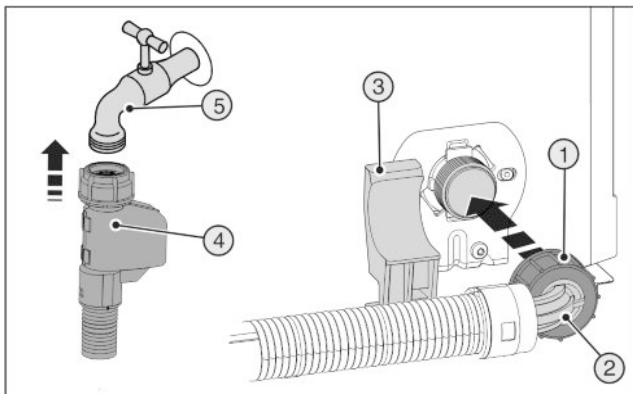

Fig. 20
- ▶ Connect the straight end of the hose Fig. 20 (4) to the stopcock Fig. 20 (5).